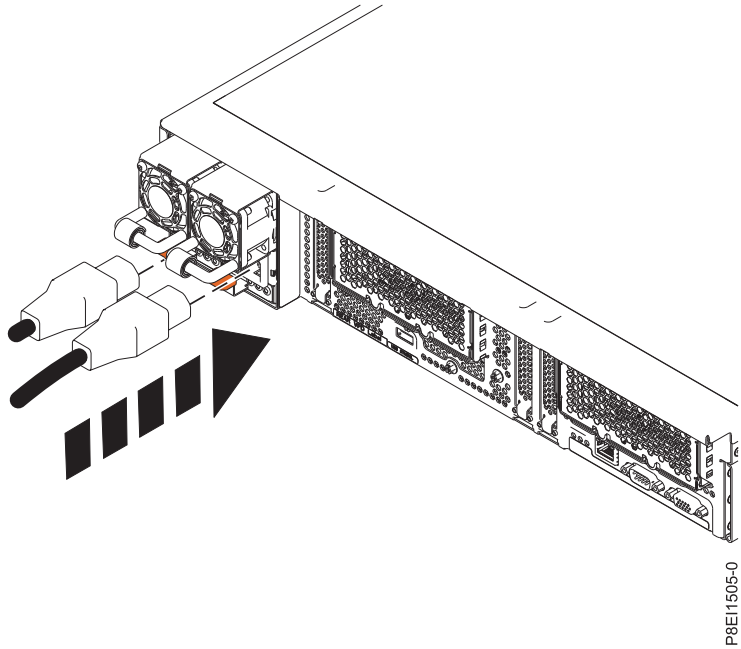

Figure 78. Connecting the power cord to the power supply
- a. Connect the power cord to the power supply. See Figure 78 on page 109.